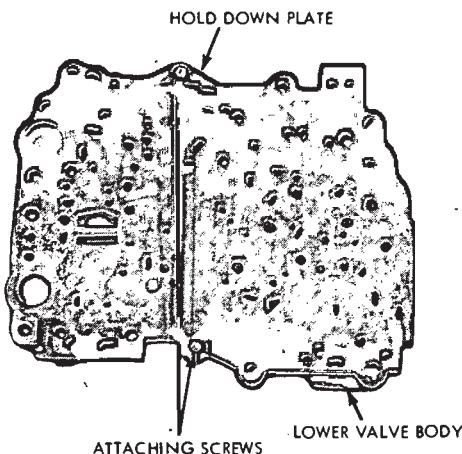

FIG. 66—Separating Upper and Lower Valve Bodies—C4S Semi-Automatic
2. Remove nine attaching screws from the underside of the lower valve body and two attaching screws from the topside of the upper valve body. Then, separate the valve bodies (Fig. 66). Be careful not to lose the rubber ball shuttle valve when separating the upper and lower valve bodies.
plate and the hold-down plate on the lower valve body (Fig. 66). Install the two attaching screws and torque them to specification.
12. Position the rubber ball shuttle valve in the upper valve body (Fig. 66).